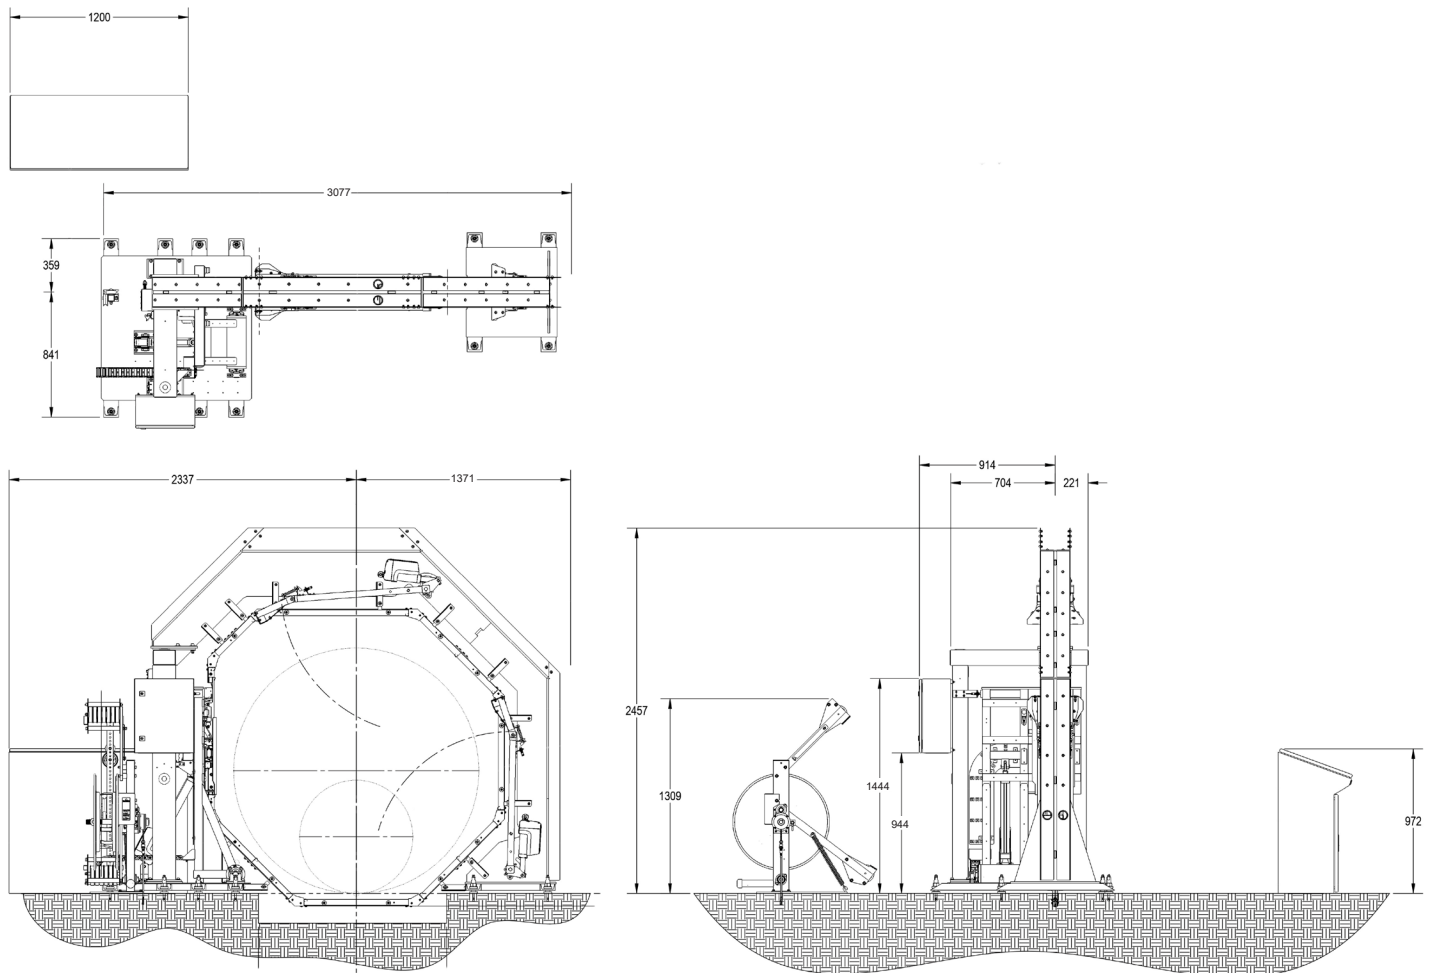

Figure 1-1: MH-RMF Dimensions
- Dimensions: See **(Figure 1-1)**